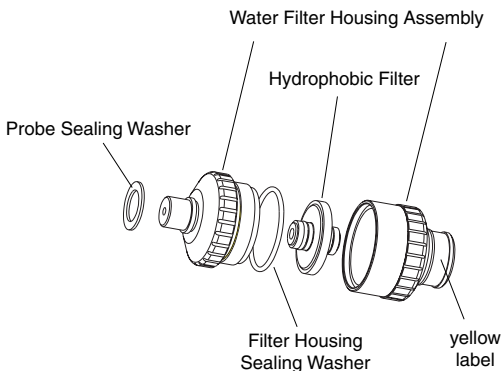

Figure 4.5 Water Filter Assembly
- 1) Unscrew the filter housing assembly (Figure 4.5).